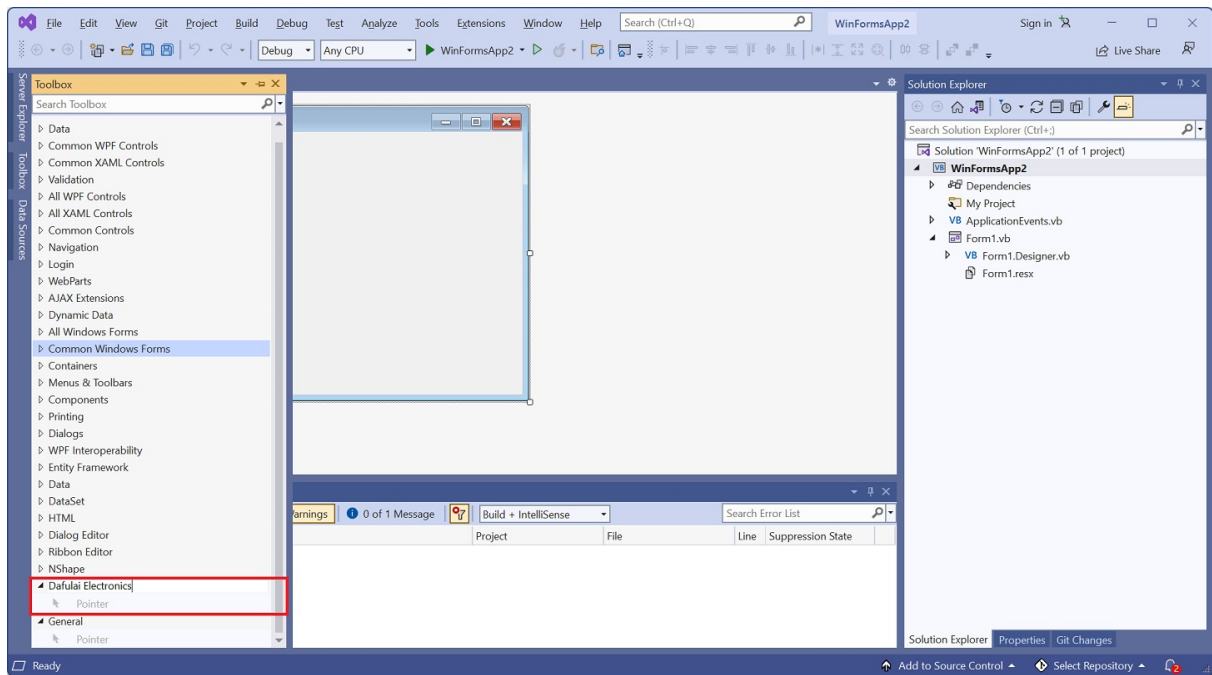
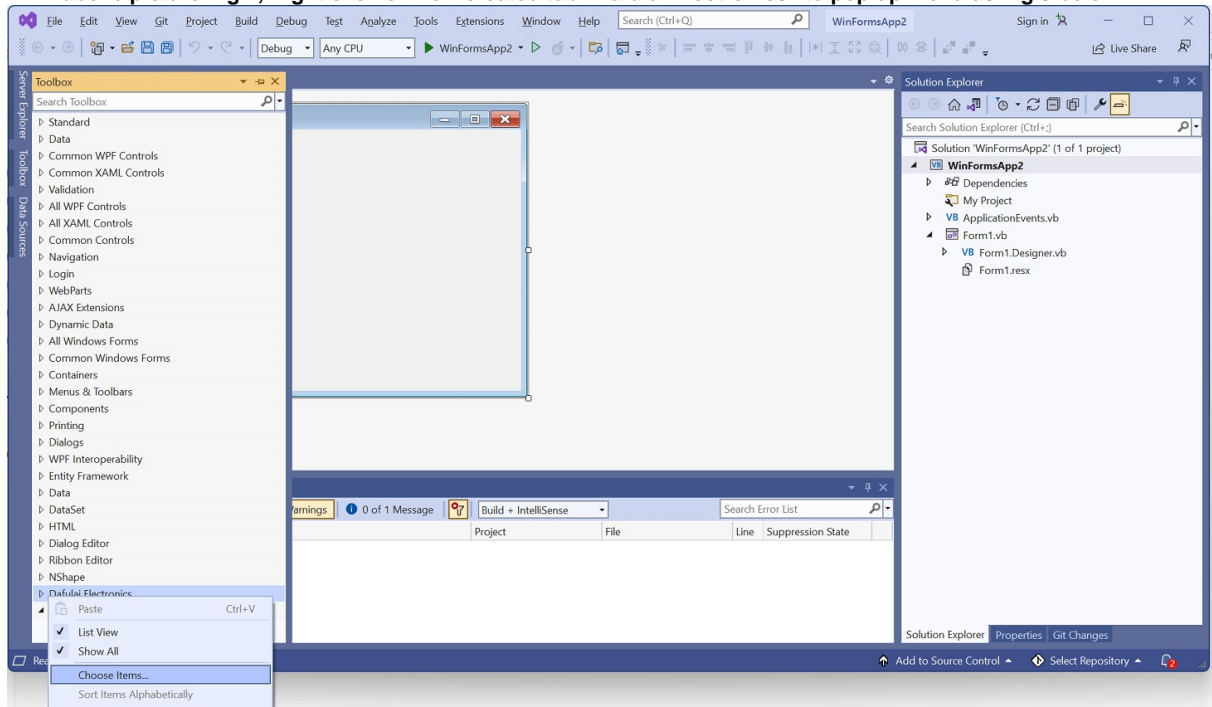
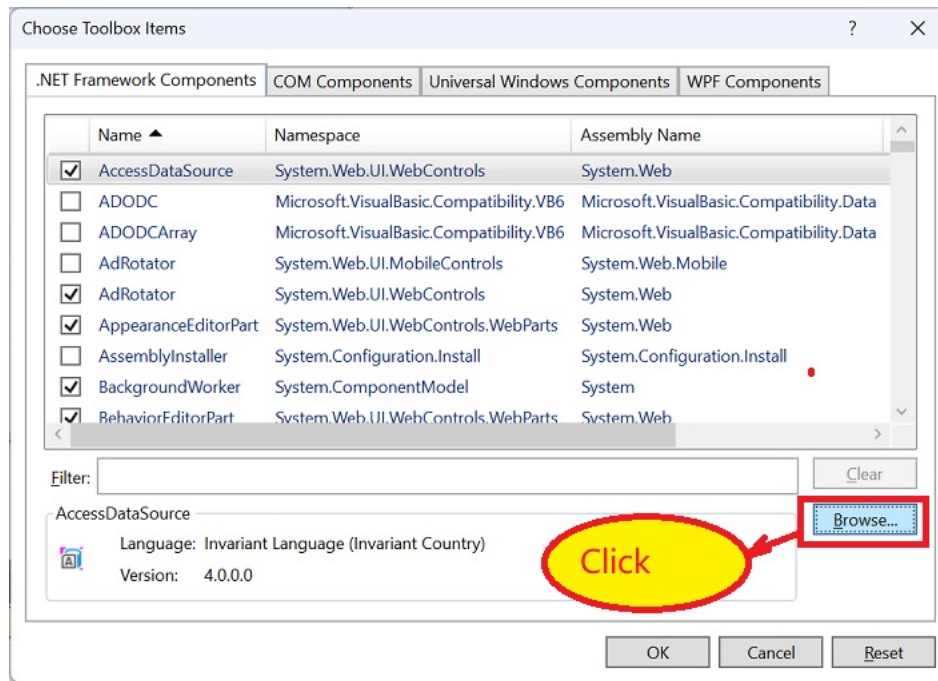

Fig.4 New Tab created
Fig 5 Popup Menu
Fig. 6 Browe
5. Type any name you like, we type "Dafulai Electronics". We just created "Dafulai Electronics" tab as Fig.4 below:
6. In above picture Fig.4, Right click on new created tab "Dafulai Electronics" to pop up menu as Fig.5 below:
7. In Fig.5 popup menu, click "Choose Items...". The following dialog Fig.6 will occur